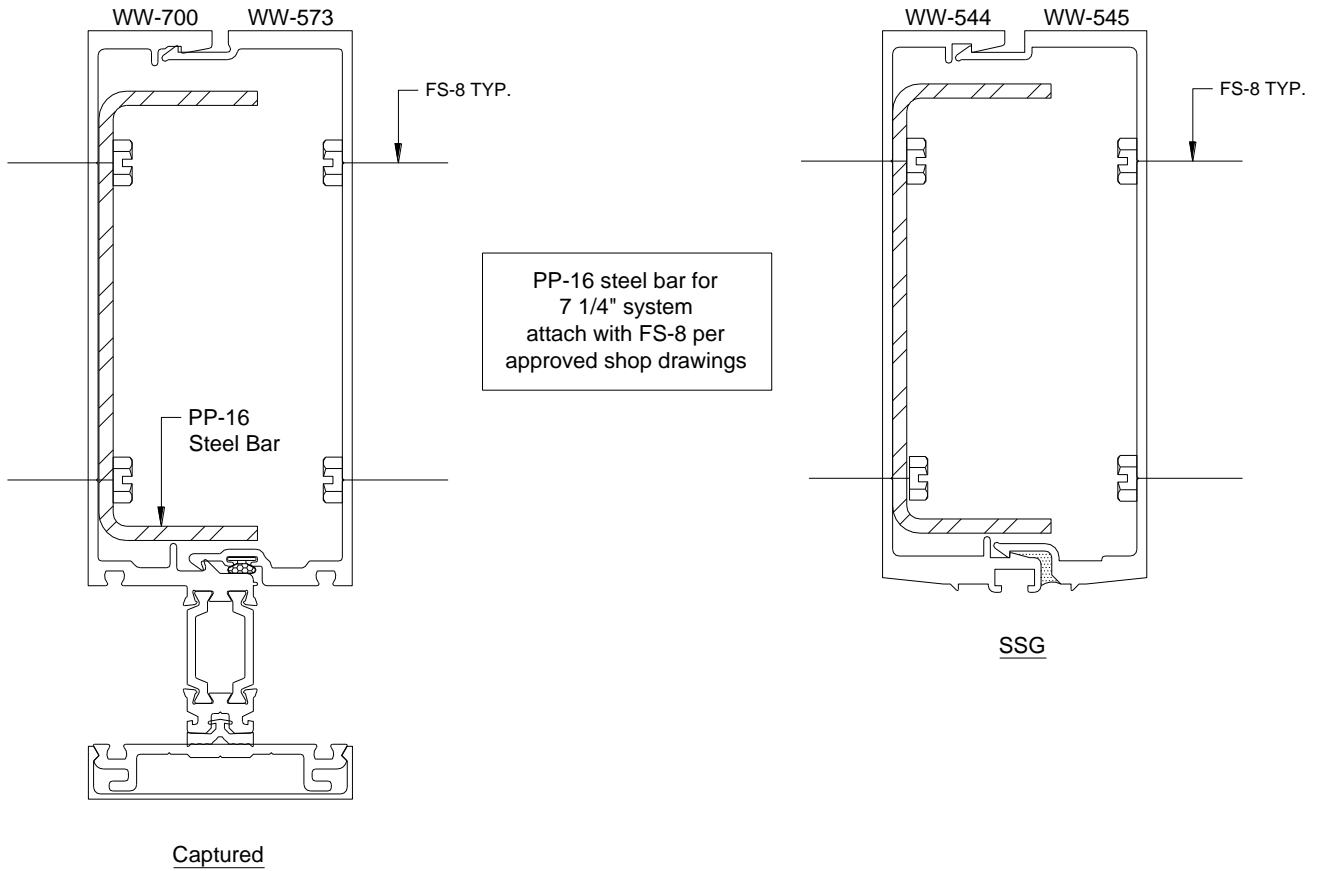

Figure 36: Typical Steel Reinforcement Attachment
3. In cases where steel attached directly to side wall of mullion, assemble frame through steel with FS-8 fasteners. **See FIGURE 36.**